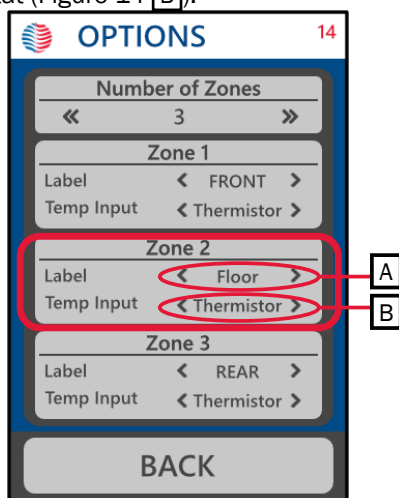

Figure 14
3. Set the zone label to "Floor" (Figure 14 **A**).
4. Choose the correct temperature input: thermistor or thermostat (Figure 14 **B**).